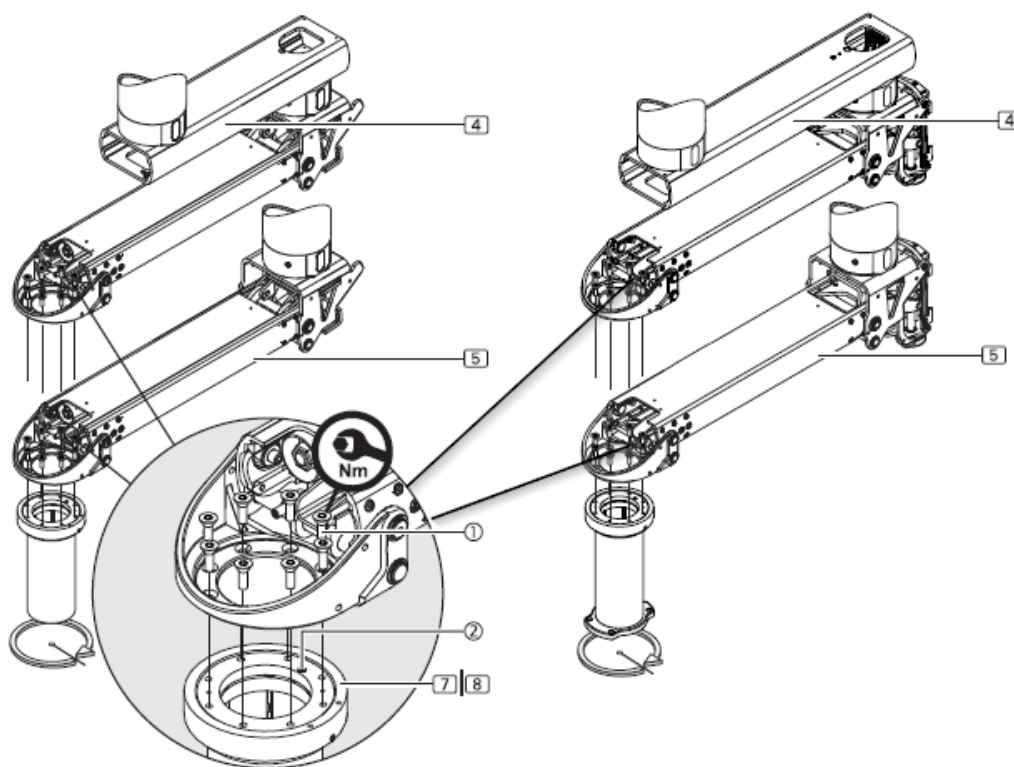

Fig. 38 Assembly of drop tube on motorised and spring-loaded arms
For motorised or spring-loaded arms. Figure 38 shows an enlarged section view of the motorised arm (on the right in Fig. 38) and the spring arm (on the left in Fig. 38) without its upper part.
- Position the drop tube under the arm (4) / (5) so that the end stop (4) on the drop tube points away from the side of the extension arm and the fixing holes are aligned.
- In order to be able to rotate the service head counterclockwise, the drop tube must be mounted with the end stop (2) on the right-hand side, as shown in figure 38. It shall be mounted on the left side if the service head is to be able to rotate clockwise.
- Fix the drop tube through the 8 x M10 fixing plate (3) and screw it to the extension arm (4) / (5) with 8 countersunk Allen screws (1).